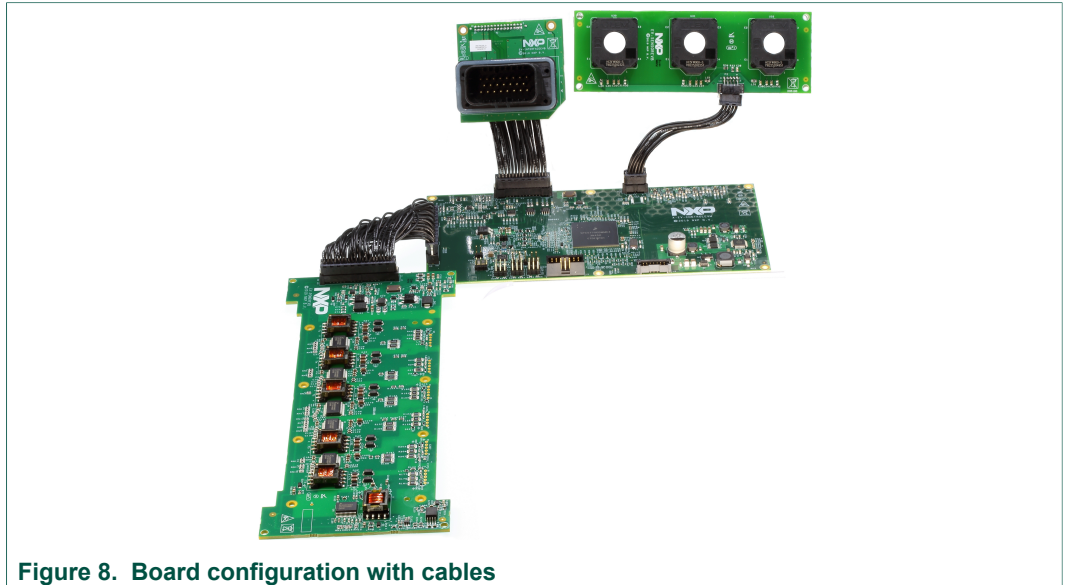

Figure 8. Board configuration with cables
5. For running a motor in a closed loop motor control, connect the EV-SENSEVEB board to the EV-CONTROLEVM with the 10-pin harness. See Figure 8.
6. Connect the EV-POWERVEB to the EV-CONTROLEVM with the 40-pin harness. See Figure 8.
7. Connect the EV-INTERFACEVB to the EV-CONTROLEVM with the 30-pin harness. See Figure 8.